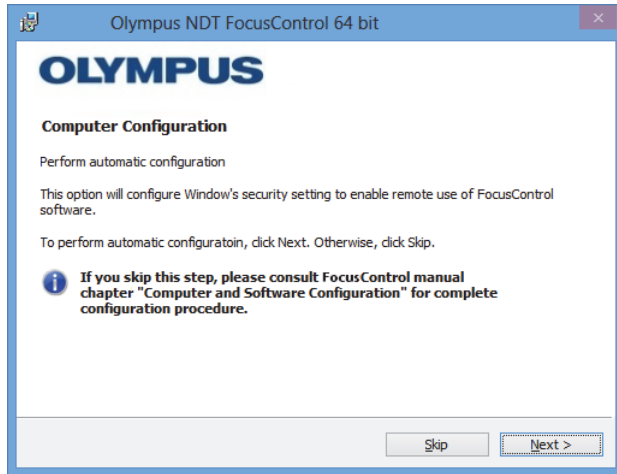

Figure 1-10 The Computer Configuration page
- b) Click **Next** in the **Computer Configuration** page to proceed to the FocusPC configuration, or click **Skip** to skip the configuration (see Figure 1-10 on page 23).